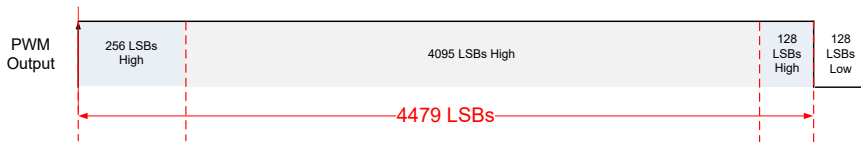
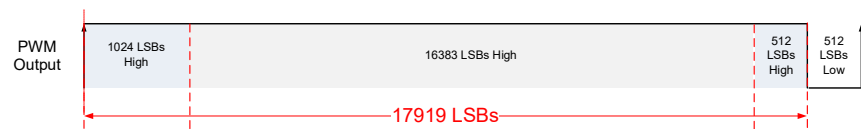

Figure 35. 12-bit PWM signal in diagnostics high mode
Figure 37. 14-bit PWM signal in diagnostics high mode
- Diagnostic high mode, see Figure 35 and Figure 37;